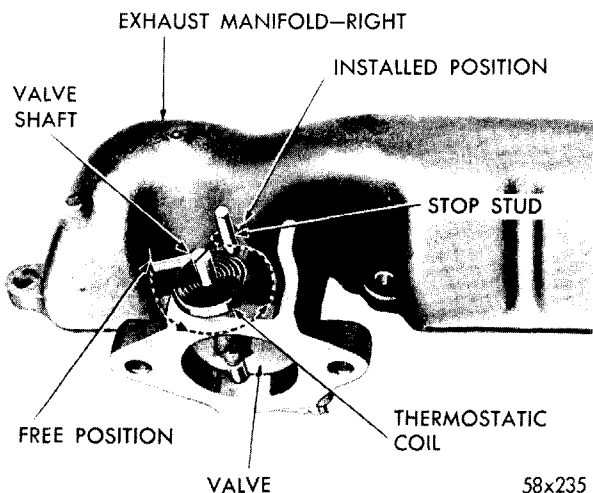

Fig. 9—Positioning Thermostatic Coil
(1) Position valve shaft in extreme counter-clockwise position.
(2) Place the new coil in position over shaft slot, with outer end tongue of coil in lower right-hand position, as shown in Fig. 9. Press inner end of coil into slot of shaft and seat firmly.
(3) Move outer end tongue around and hook under pin, as shown in Figure 9.